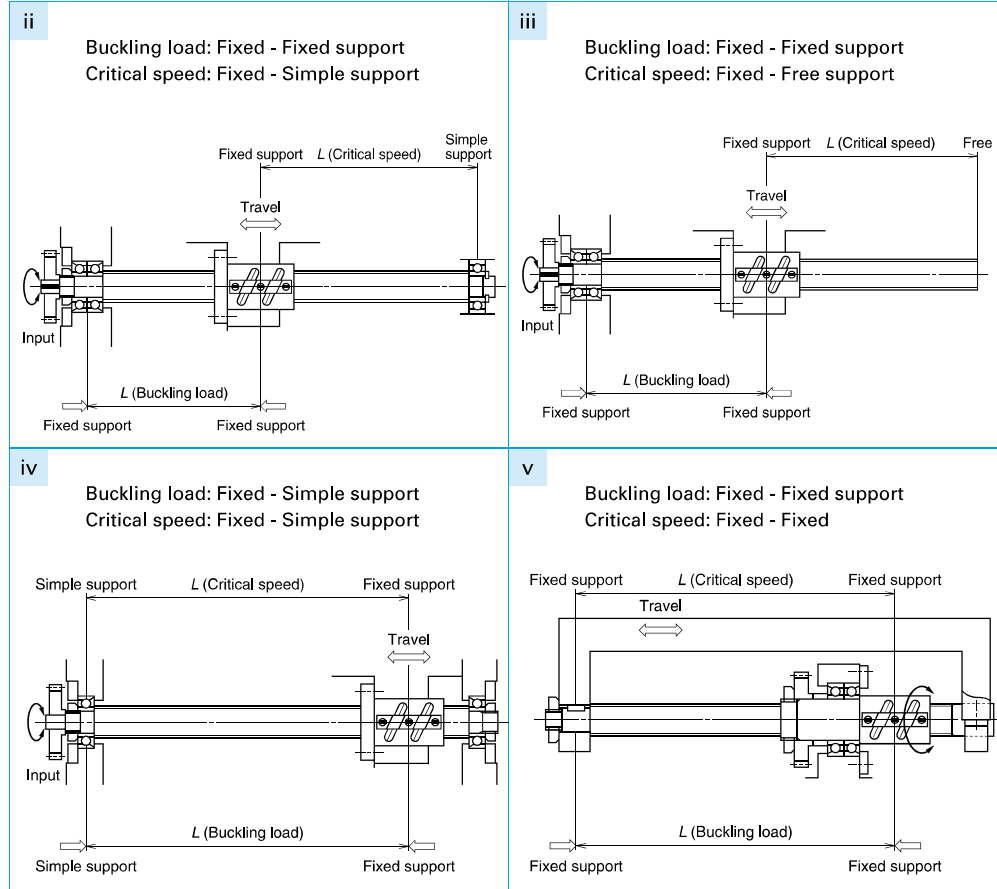

Fig. 4.1 Supporting conditions for screw shaft and ball nut
L : Unsupported length (mm) (See **Figs. 4.1**, and **4.2** "Supporting conditions of screw shaft and ball nut" on page B51)
Supporting condition is Fixed - Simple support (From the supporting condition (ii) in **Fig. 4.1** "Supporting conditions of screw shaft and ball nut" on page B51.)
**Figs. 4.1 and 4.2** are typical conditions in supporting ball screws. Use them as reference to calculate the buckling load and the critical speed. Please consult NSK if it is necessary to scrutinize calculation due to use conditions, or if boundary conditions are not clear due to special installation.